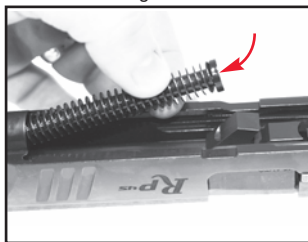

Figure 30
3. Insert the front of the Recoil Spring/Guide Rod Assembly into the Slide. See Figure 30.